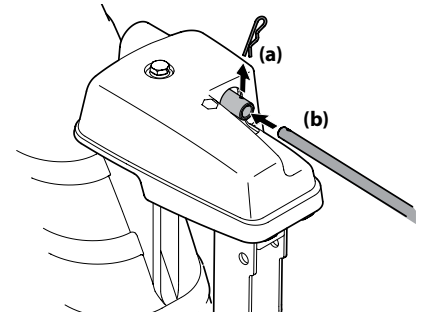

Figure 2-21
5. Remove hairpin clip (a) from rear of chute control head. See Figure 2-21.